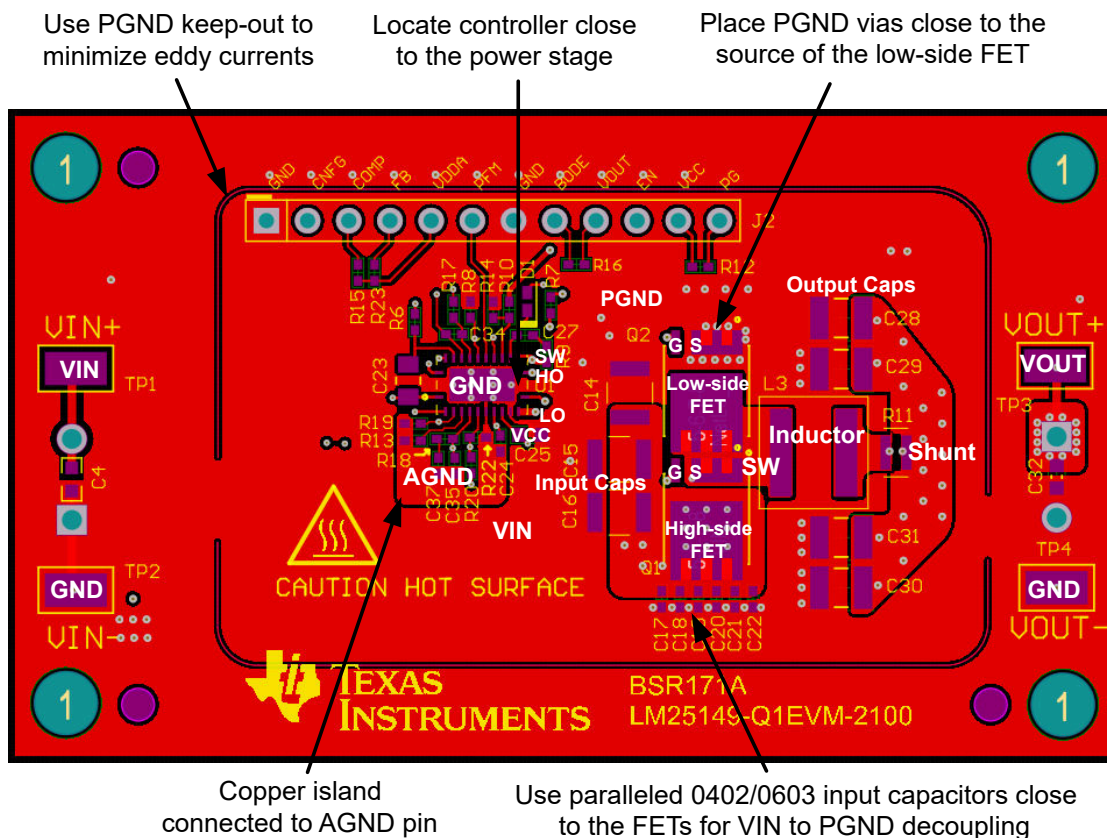

图 9-47. PCB Top Layer – High Density, Single-sided Design
图 9-47 shows a single-sided layout of a synchronous buck regulator with discrete power MOSFETs, Q1 and Q2, in SON 5-mm × 6-mm case size. The power stage is surrounded by a GND pad geometry to connect an EMI shield if needed. The design uses layer 2 of the PCB as a power-loop return path directly underneath the top layer to create a low-area switching power loop of approximately 2 mm2. This loop area, and hence parasitic inductance, must be as small as possible to minimize EMI as well as switch-node voltage overshoot and ringing.
- Make the ground connections to the LM5148 controller as shown in 图 9-47. Create a power ground directly connected to all high-power components and an analog ground plane for sensitive analog components. The analog ground plane for AGND and power ground plane for PGND must be connected at a single point directly under the IC – at the die attach pad (DAP).